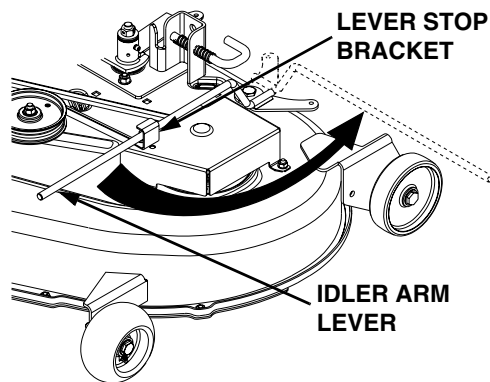

Figure 49
9. Disengage the deck idler arm lever from its stop bracket and release the spring tension by rotating the lever out and rearward (See Figure 49).